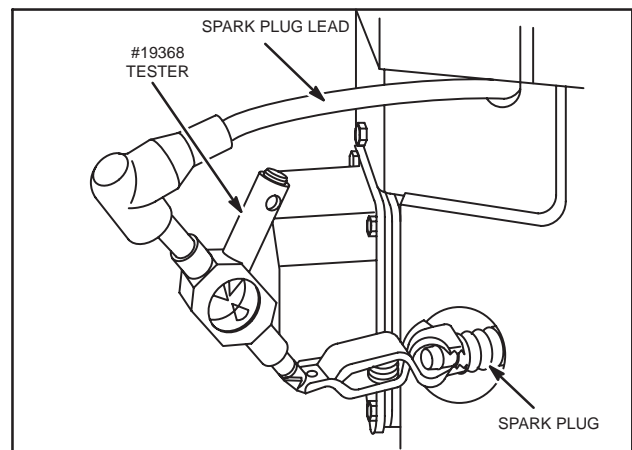

Fig. 8
- Attach ignition tester, Tool #19368 between the spark plug lead and each spark plug, Fig. 8.